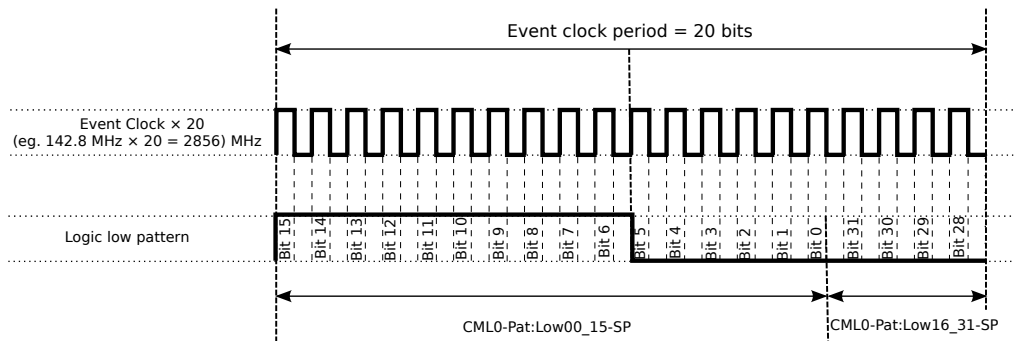

Figure 4: Generate the event clock
that not all event receiver form factors have CML outputs. The EVR-VME-230RF form factor has outputs FrontOut4 (CML0), FrontOut5 (CML1) and FrontOut6 (CML2) capable of CML output. This tutorial demonstrates how to configure CML0 output (corresponds to FrontOut4 output) to generate a clock signal, that has the same phase and frequency as the event clock. To achieve this, the FrontOut4 output source is set to `logic low` and the CML outputs are enabled. This causes the logic low pattern of the CML pulse mode to be continuously outputted. The configurable pattern, as seen in Figure 4, is 20 bits long and is sent out with a bit rate of 20 times the event clock rate. It is configured to replicate the event clock phase and frequency.
- `CML0-Pat:Low00_15-SP=0xFFC0`: Set logic low pattern bits 0-15. The Figure 4 shows that the bits 15-0 must be set as follows: 1111 1111 1100 0000, which translates to 0xFFC0. Each bit represents 1/20 of the event clock period.
- `CML0-Pat:Low16_31-SP=0`: Set signal low pattern bits 16-31, as seen in Figure 4. Note, that only bits 31-28 (top 4 bits) can be used.